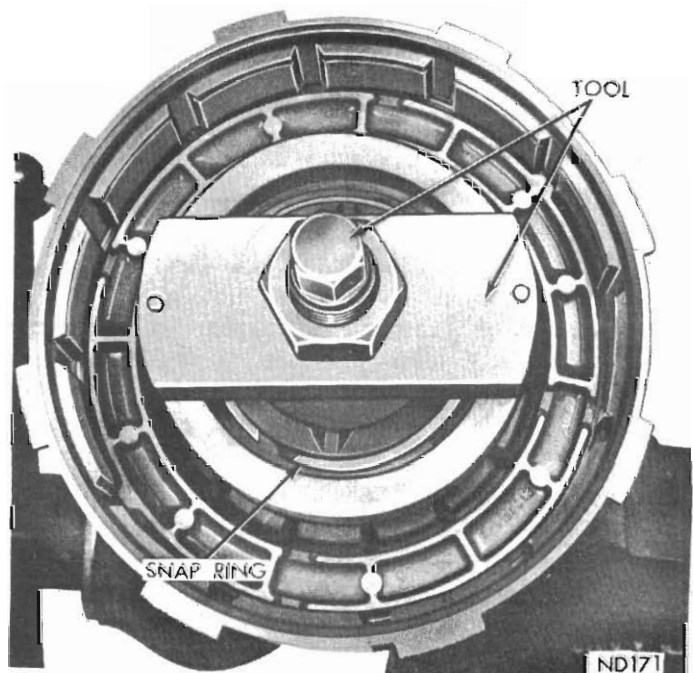

Fig. 75 - Removing or installing front clutch spring retainer snap ring (A-727)
(1) Remove large waved snap ring that secures pressure plate in clutch piston retainer. Lift pressure plate and clutch plates out of the retainer.
(2) Install compressor, Tool E21C30C over piston spring retainer, (Fig. 75). Compress spring
Position spring retainer and snap ring over the springs. Compress springs with Tool E21C30C (Fig. 75) and seat snap ring in hub groove. Remove compressor tool.